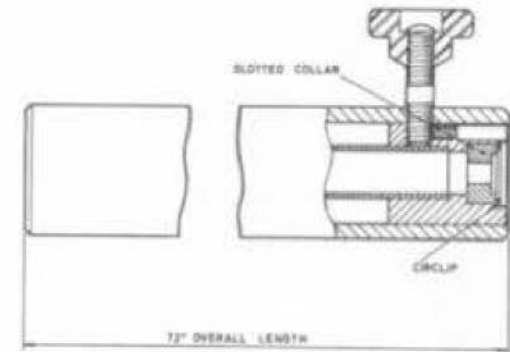

Fig.9. Special extension tube
- (1) Fit and secure a hoist link (fig.9) on the rear face of the adapter at the port and starboard brackets provided and labelled.
- (2) Withdraw the 7/8 in.dia. pin from the forward suspension lugs.
- (3) Remove the two clamp brackets from their position on the underface of frame A, invert, reposition and secure them on the top face at the same attachment holes.
- (4) Remove the pins from the port and starboard end fitting of frame C.
- (5) Remove the circlip and slotted collar from the special extension tube.
- (6) Fit the special cable in this tube and refit the collar and circlip.
- (7) Assemble the two minilift hoists in accordance with A.P.2817A, Vol.1 and 6, Part 1, Sect.8, Chap.12.